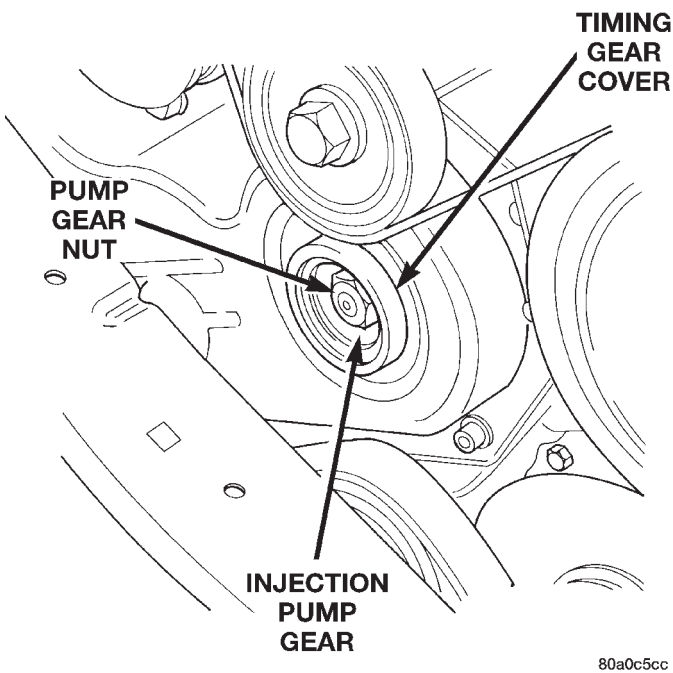

Fig. 29 Removing Pump Drive Gear Nut
(17) Remove the injection pump drive gear nut (Fig. 29).